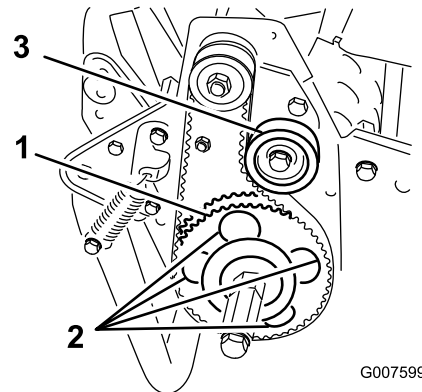

Figure 34
7. Rotate the drive pulley until the holes align with the 4 roller bearing flange screws (Figure 34).
11. Adjust the belt tension and tighten the idler pulley mounting screw (Figure 34).